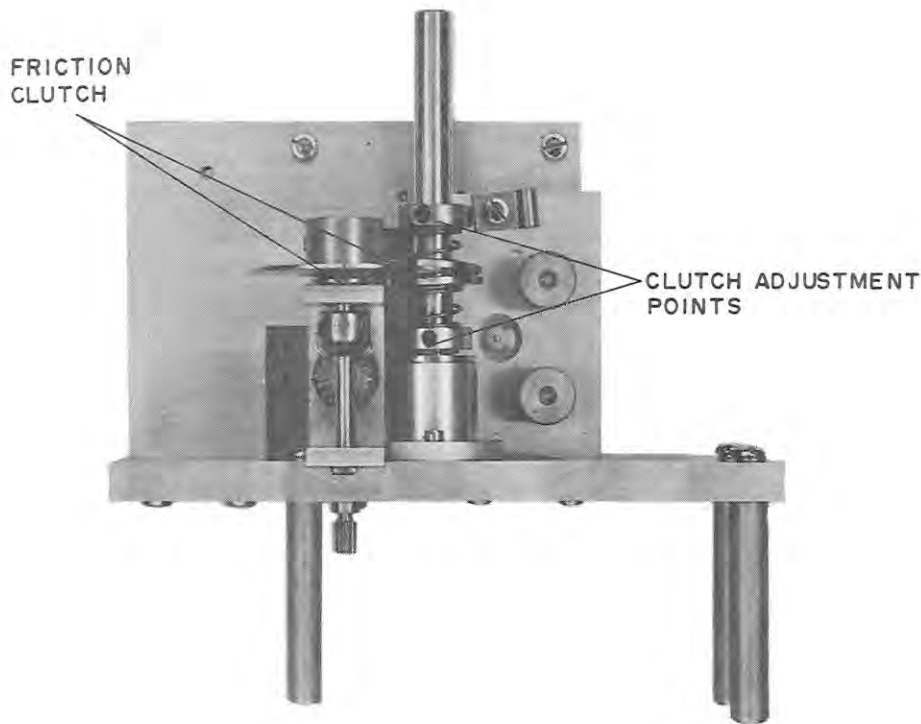

Figure 5-1. Gear Train Clutch Adjustment Points.
- (1) Refer to Figure 5-1 and locate the clutch adjustment points on the gear train.
- (2) Loosen the two set screws in both retaining collars.
- (3) Move the collars closer to the clutch plates (increased spring compression) for increasing torque and reducing clutch slippage. Reduce spring compression by moving the two retaining collars away from the clutch plates for easier tuning. The distance from the retaining collar to the clutch plate on each end of the shaft should be the same.
- (4) Tighten the set screws in each retaining collar.
- (5) Rotate the tuning crank over the tuning range and note performance. Repeat steps 1 through 4, when required.